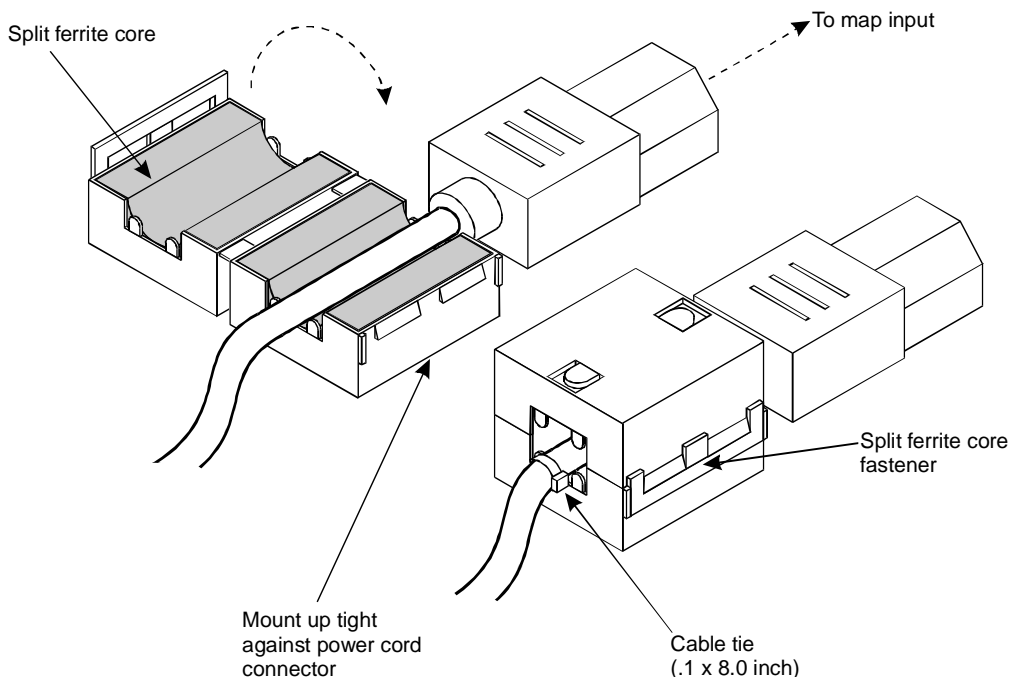

Figure 2-1. Split Ferrite Core Toroid Installation
The split ferrite core toroid is placed on the MAP/100 power cable (Figure 2-1). If the MAP/100 monitor is plugged into the MAP/100 chassis, a split ferrite core toroid is also placed on the monitor power cord.
1. Open the split ferrite core toroid by gently pulling the fastener away from the body of the split ferrite core toroid (Figure 2-1).
2. Place the power cord in the groove inside a split ferrite core toroid (Figure 2-1).
4. Gently snap the split ferrite core toroid shut around the cable (Figure 2-1).
7. Place the monitor power cord in the groove inside a split ferrite core toroid (Figure 2-1).
9. Gently snap the split ferrite core toroid shut around the cable (Figure 2-1).